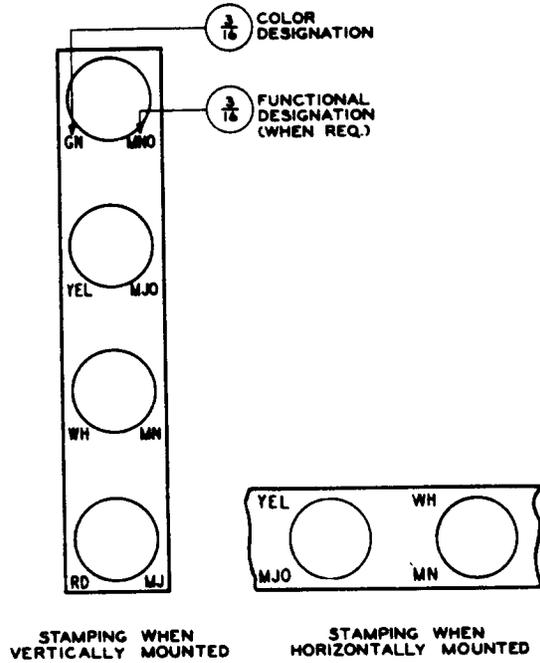

Fig. 40 - Aisle Pilot Lamp Mountings on Auxiliary Supports
2.65 *Aisle pilot lamp mountings on auxiliary supports* shall have the colors stamped, as shown in Fig. 40.
2.69 *Aisle pilot lamp mountings on auxiliary supports* shall have the colors and functional designations stamped, as shown in Fig. 40.
2.71 *Aisle pilot lamp mountings* shall have the lamp colors stamped, as shown in Fig. 40.